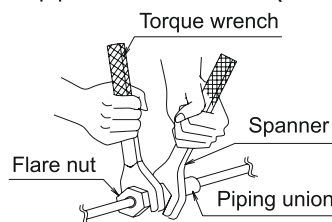

Fig. 6
(1) Connect the piping
- Be sure to use both a spanner and torque wrench together, as shown in the drawing, when connecting or disconnecting pipes to /from the unit. (Refer to fig.6)